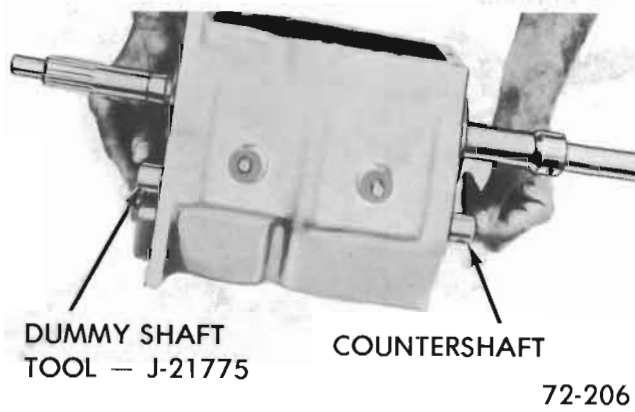

Figure 72-75 - Removing Countershaft With J-21775
11. Using countershaft alignment Tool J-21775, drive countershaft out rear of case. See Figure 72-75.